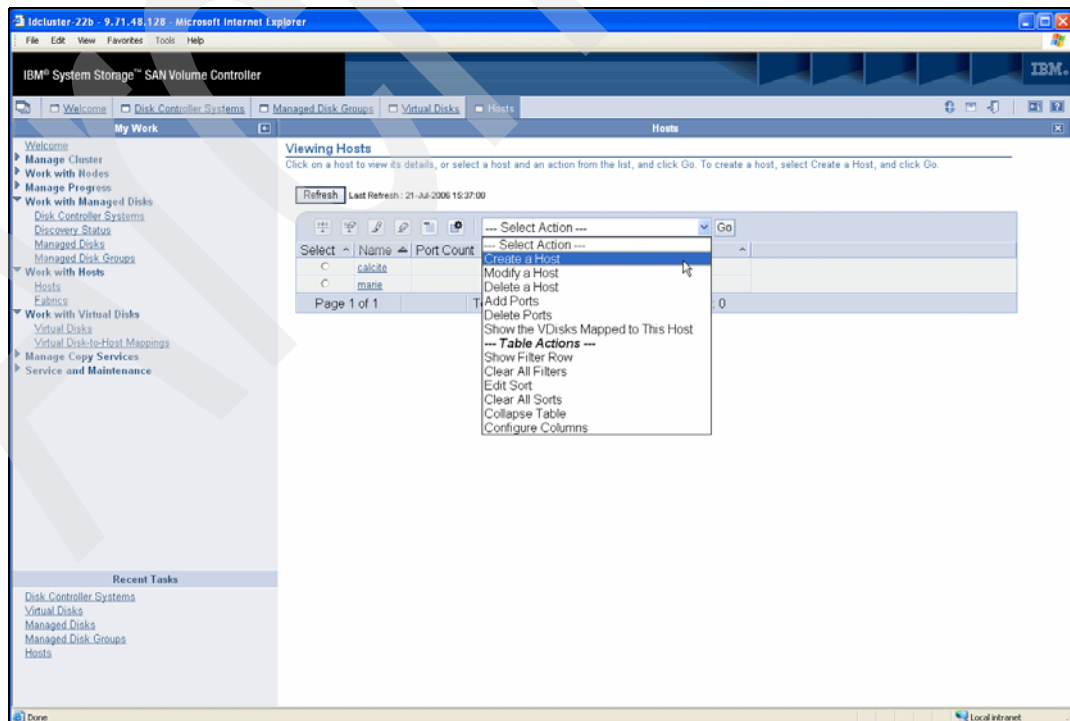

Figure 7-19 Host View
2. Bypass the filter. The panel shown in Figure 7-19 is displayed.